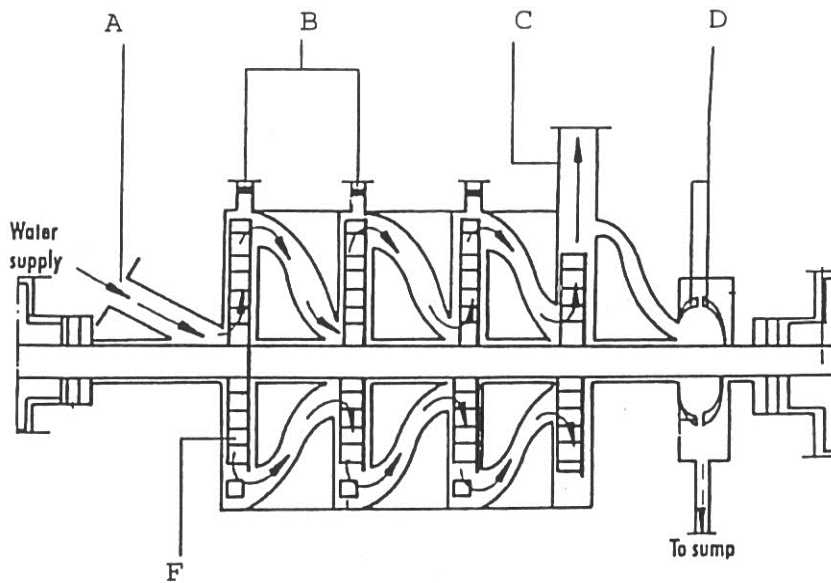

FIGURE 2
4.3 Refer to FIGURE 2 below and answer the following questions:
4.3.1 Name the type of pump indicated in FIGURE 2. (1)
4.3.2 Label the parts indicated on FIGURE 2 by writing only the answer next to the letter (A–D) in the ANSWER BOOK. (4)